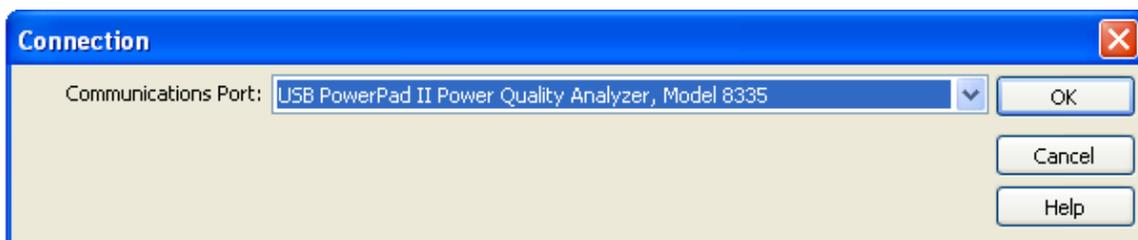

Figure 3
- DataView will open the **Power Analyzer Control Panel** and automatically connect the PowerPad if it is turned on and has been previously connected. Otherwise the **Connection** window will appear (Figure 3).